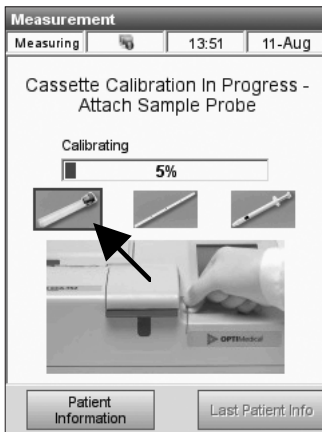
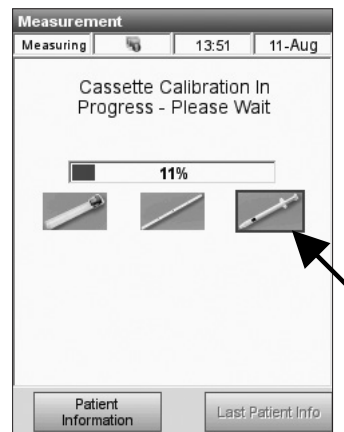

Fig. 5-10 E-Lyte CCA Cassette - Sample Tube selected
Fig. 5-12 E-Lyte CCA Cassette - Syringe selected
- When an E-Lyte CCA Cassette is inserted, the calibration screen will display the default selection for the sample container (Fig. 5-10) as selected in the **<Sample Container Menu>** (see Section 3.2.2.8). If necessary, you may change the sample container during calibration by selecting a different icon (Fig. 5-11 and Fig. 5-12).